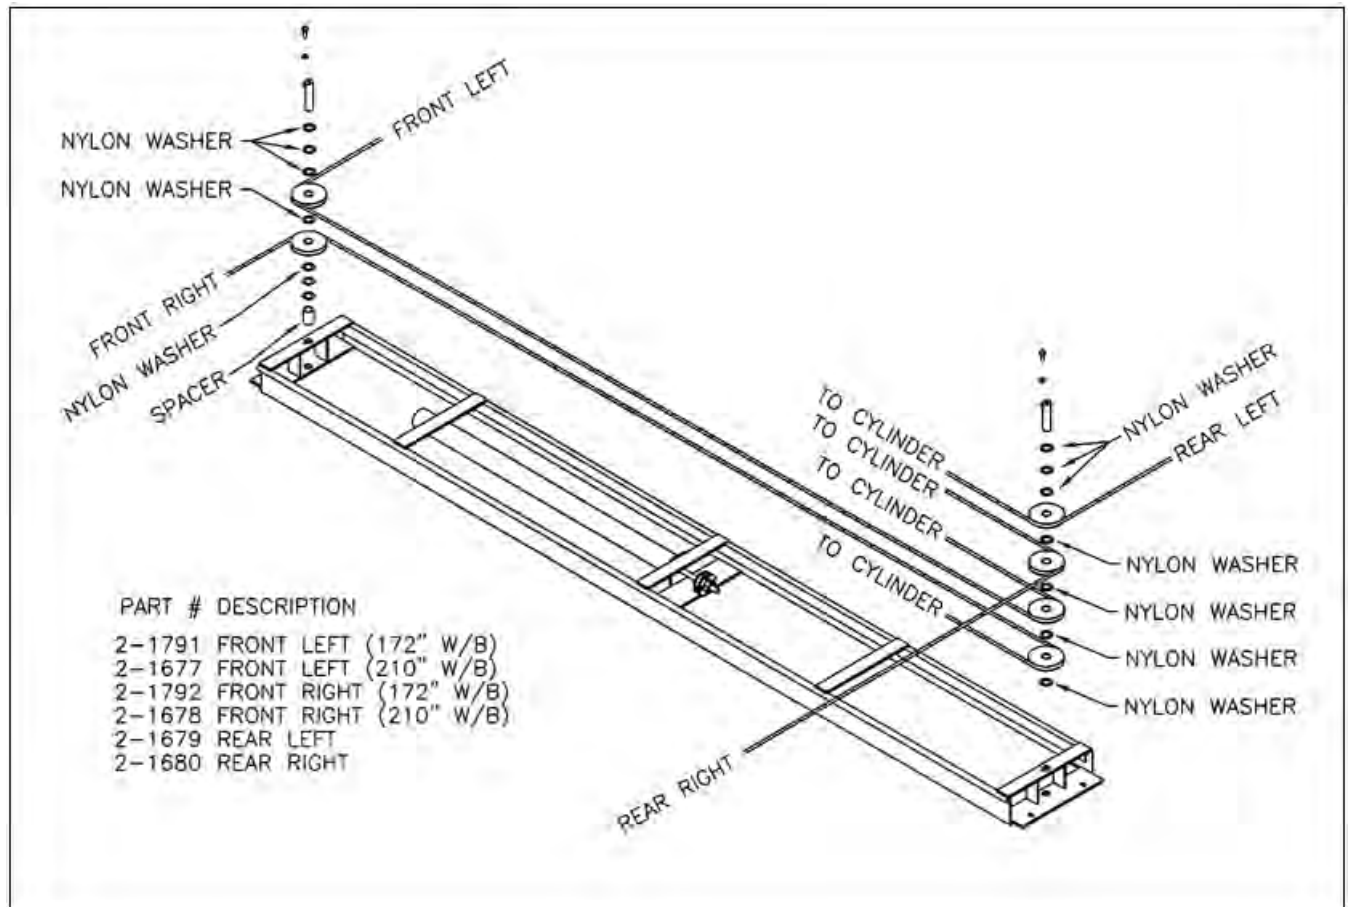

Figure 12. Cable Routing (L.S. Deck)
6. Attach the Rear Left cable to the cable flange. Run the cable to the rear of the deck and over the first pulley as shown in **Figure 12**. Route the remaining cable through the crossmember, exiting past the safeties. Make sure to place three Nylon washers between the first pulley and the lower pulley box plate.
7. Attach the Rear Right cable to the cylinder at the cable flange next to the previous one. Run the cable to the rear of the deck and over the second pulley as shown in **Figure 12**. Route the remaining cable through the crossmember, exiting past the safeties. Make sure to place a Nylon washer between the pulleys.
8. Attach the Front Left cable to the cylinder at the cable flange next to the previous one. Run the cable to the rear of the deck and over the third pulley as shown in **Figure 12** (threaded end comes around 180 degrees into the deck). Make sure to place a Nylon washer between the pulleys.
9. Pull the Front Left cable through the deck (along the right side) making sure to keep the cable above the deck stiffeners. At the front of the deck, run the cable over the pulley as shown in **Figure 12**. Route the remaining of the Front Left cable through the crossmember and past the safety lock. Make sure to place three Nylon washers between the first pulley and the lower pulley box plate.
10. Attach the Front Right cable to the cylinder at the cable flange next to the previous one. Run the cable to the rear of the deck and over the fourth pulley as shown in **Figure 12** (threaded end comes around 180 degrees into the deck). Make sure to place a Nylon washer between the pulleys.
11. Pull the Front Right cable through the deck (along the left side) making sure to keep the cable above the deck stiffeners. At the front of the deck, run the cable over the pulley as shown in **Figure 12**. Route the remaining of the Front Right cable through the crossmember and past the safety lock. Make sure to place a Nylon washer between the pulleys. Use the sheave spacer to fill the remaining gap.